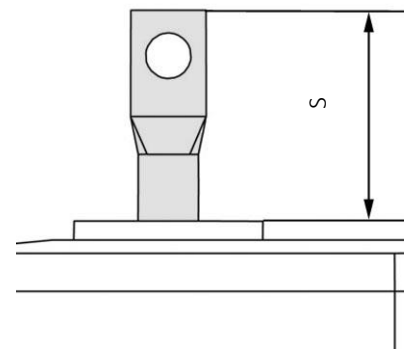

Figure 13
- 1 Measure S_1 (see *Figure 13*) with brake closed.
- 6 Turn until the piston rod of the thruster (see *Figure 13*) has reached the necessary value $S = S_1$ (see *Table 6: Reserve stroke*) while the brake is closed.